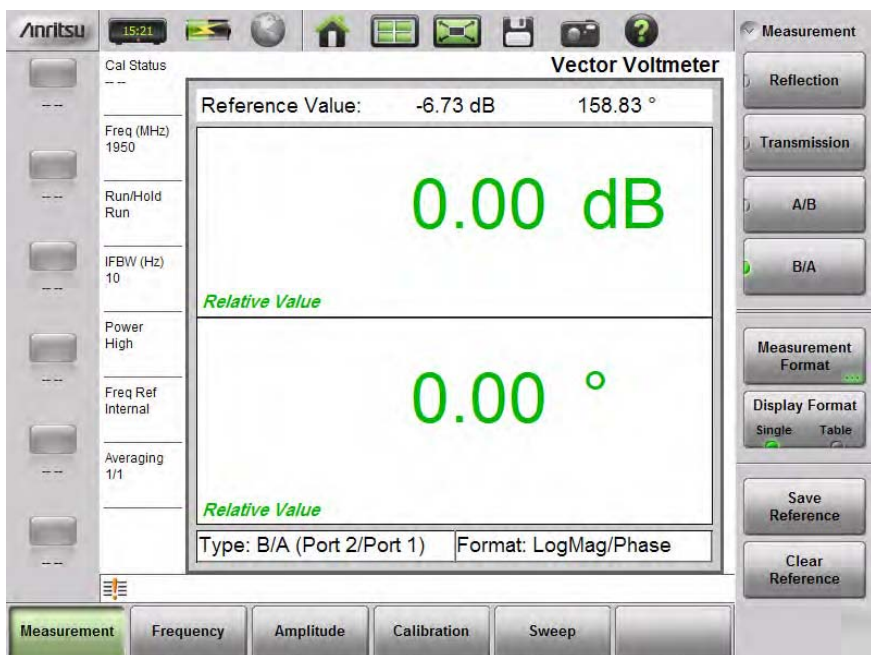

Figure 8-5. First Side of Splitter Measured and Saved as Reference
2. Connect one output side of the splitter to Port 2, and connect a 50 ohm load to the opposite output side. Press **Save Reference** to use this measurement as reference when you measure the other output side of the splitter. See Figure 8-5.